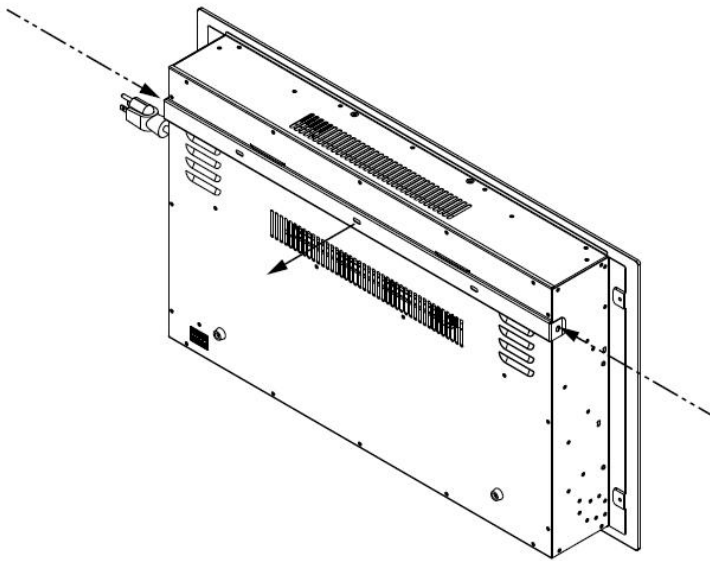
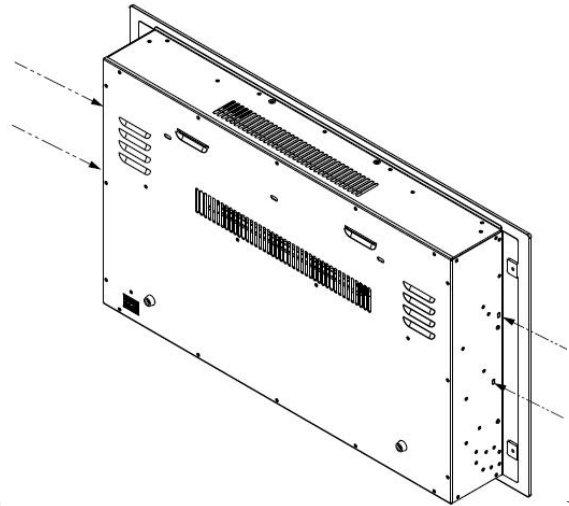

Fig.1
Fig.2
- C. Place unit face down on a soft, non abrasive surface. Remove the bracket from the back of the unit by removing the screws, refer to Figure 1. Remove four pcs of silver screws at both sides, refer to Figure 2.
- B. If your fireplace come with lotset, remove the logset from the package, put it to the fireplace designed place. Figure 1.
- D. Then carefully place crystal embers into the bottom tray on the front of the appliance as illustrated. Apply an even layer from side to side. Figure 2.